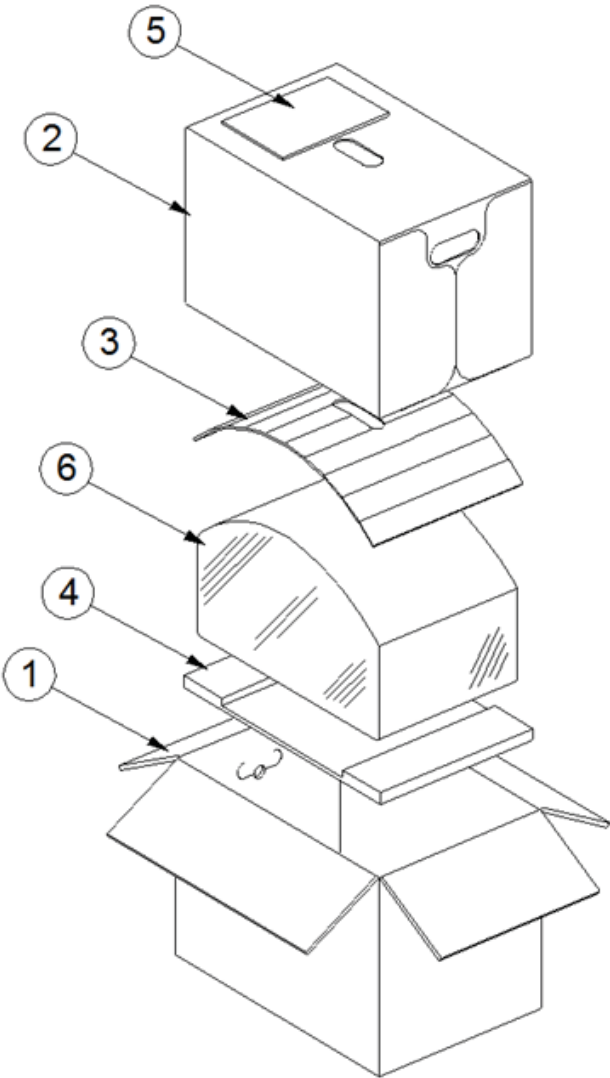

Figure 1. Packaging View
1.2 All driver cones should move outward. Referring to figure 1, rewire any driver that moves inward.